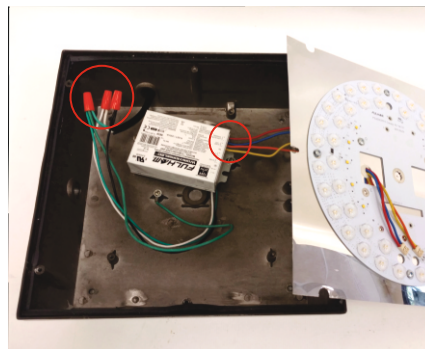

Figure 9
6. Connect the LED Module input/NTC wires to the LED Driver. See figure 9.
7. Connect the LED Driver input wires to the power source in accordance with the wiring instructions at the bottom of the page. See figure 9.